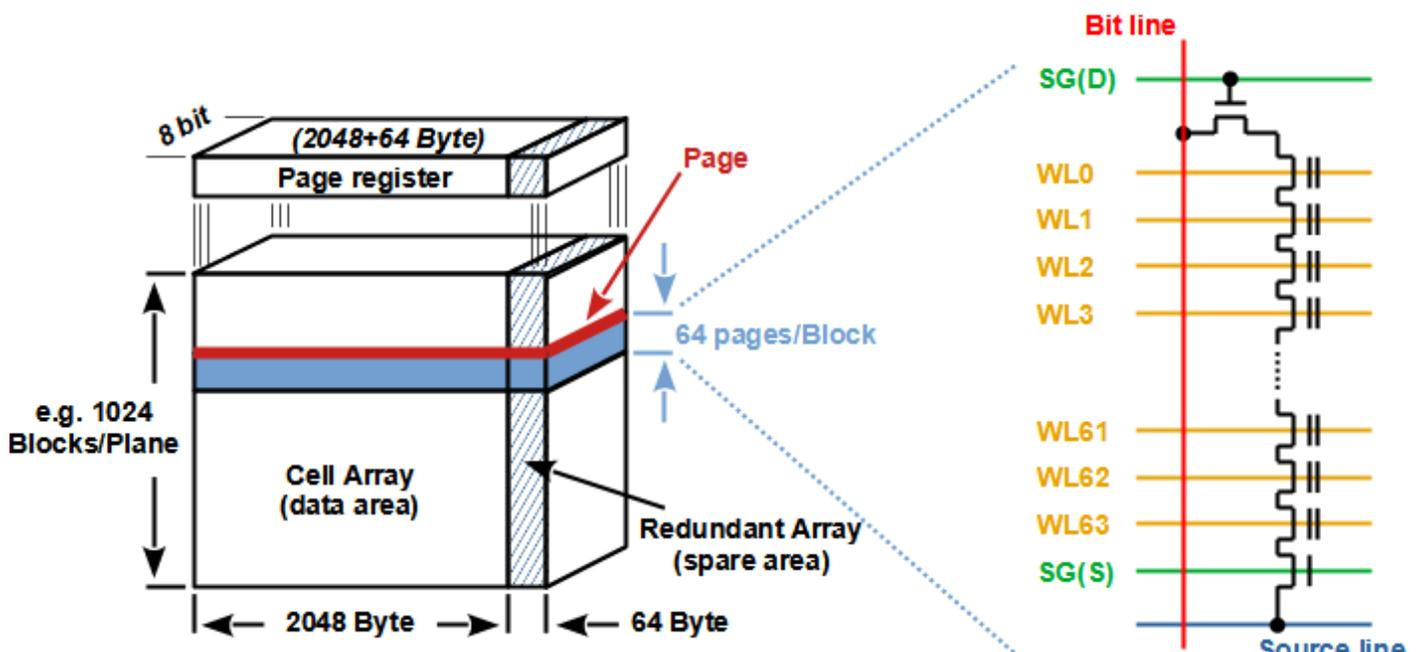

Figure 2: NAND flash internal structure.
- **NAND flash internal structure** (see Figure 2): The hierarchical structure of NAND Flash starts at a cell level which establishes strings, then pages, blocks, planes and ultimately a die. A string is a series of connected NAND cells in which the source of one cell is connected to the drain of the next one. Depending on the NAND technology, a string typically consists of 32 to 128 NAND cells. Strings are organised into pages which are then organised into blocks in which each string is connected to a separate line called a bit line. All cells with the same position in the string are connected through the control gates by a word line. A plane contains a certain number of blocks that are connected through the same bit line. A flash die consists of one or more planes, and the peripheral circuitry that is necessary to perform all the read / write / erase operations.
- **Erasing** NAND flash: Flash memory allows only two states – erased and non-erased. Particular bit of data can be written only if the media is in erased state. Once written, the bit is considered not usable for other write operation. Write operation on flash device can be accomplished only on erased units, so a write operation must be preceded by an erase operation. Only erase operation can revert programmed cells to erased state. During the erase, all cells on a bit string (see Figure 2) are erased, forming a huge block of flash – so called erase block. As a result, it is not possible to erase single cell in flash array. During the erasing, the ready / busy signal (R/B# pin or ready / busy flag in STATUS register) is low to indicate that the